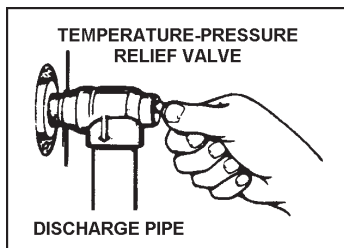

FIGURE 36.
When checking the temperature-pressure relief valve operation, make sure that (1) no one is in front of or around the outlet of the temperature-pressure relief valve discharge line, and (2) that the water discharge will not cause any property damage, as the water may be extremely hot, see Figure 36.